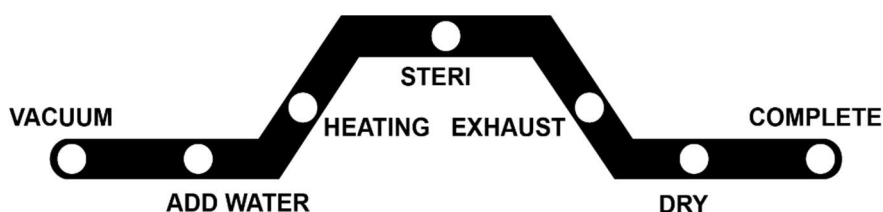

Figure 31
- D. Press the “ START ” button . The sterilization temperature, sterilization time, and drying time will be displayed two times consecutively, and then the sterilizer will run the selected programs automatically. The program execution status will be displayed on the status indicator, as shown in Figure 31.